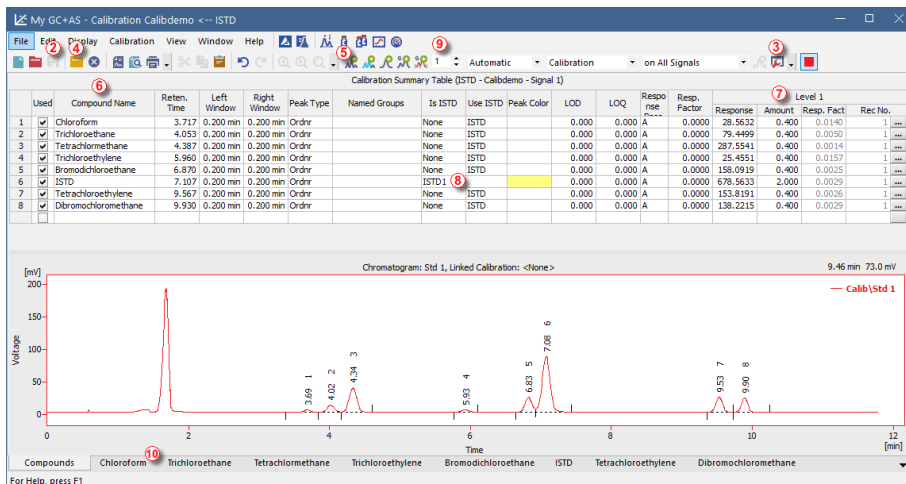

Fig 9: Calibration window - loaded standard
- Only one signal of the chromatogram can be active at a time. The active signal can be recognized from the legend section ① in the upper right corner of the graph (active signal is set in bold), from the icons in the **Overlay** toolbar ② (the active signal has the highlighted ■ icon) or from the graph outline color and table headers color. Values inside the tables change by changing the active signal.
- Change the active signal by double clicking on its name in the legend section ①. Change the color of the currently active signal to another one
- by clicking on the *Not used color*  icon in the *Overlay* toolbar. All parts of the **Chromatogram** window mentioned in the previous step will change color. Return to the former active signal by clicking on its (now raised ) icon in the *Overlay* toolbar ②.
- Click on any row in the *Result table* ③. The peak (or peaks) corresponding to the row you just clicked onto will change color according to the color of the signal. This change will last until the focus in the *Result table* is canceled.
- To add permanent color to the peak, click the *View* button ④ in the right side of the **Results** tab. This will get you to the linked calibration file. There, in the *Calibration Summary Table*, find the *Peak Color* column (see **Fig 9** on pg 21.). In the row corresponding to the peak to be colored select the appropriate color and click *OK*. Return to the **Chromatogram** window by using the  icon in the menu. The selected peak is now colored according to the color selected in the **Calibration** window.
- You can change the integration of peaks by using the interactive icons on the toolbars on the left side of the **Chromatogram** window ⑤ or directly on the **Integration** tab ⑥. Any changes made either way will change the **Integration table** and can be copied to the template method. To do so, click on *Method - Save as Template...* menu comand.
- Check that the **Current Level** field **9** is set to 1 in order to set the calibration level number 1. Use the **Add All** icon (blue) **5** to move all identified peaks to the calibration table. The Calibration table appears in the **Calibration** window, ready to be completed as seen on **Fig 9** on pg 21.
- As it can be clearly seen in the calibration, particular peaks are now identified according to their retention times only. Click and edit the fields in the **Compound Name** column **6** to those seen on **Fig 9** on pg 21. You may also set the peak color for some peak, for example the ISTD peak, in the **Peak Color** column.